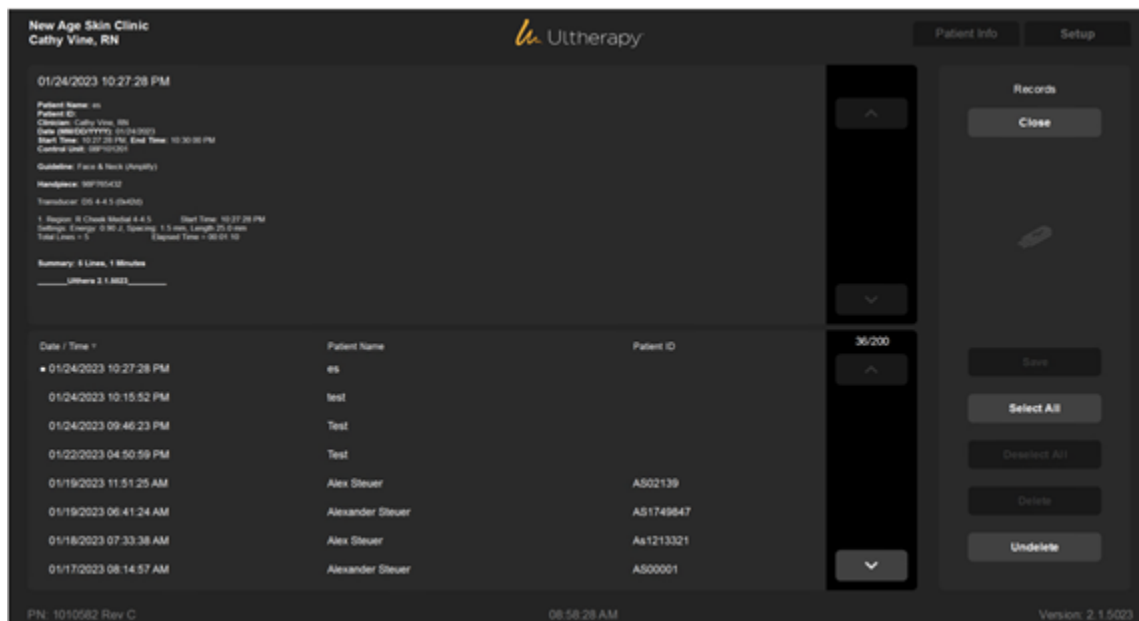

Figure 7.11: Patient Image Record List
1. On the **Setup** screen, tap the **Images** button to view a list of treated patients like the one shown in Figure 7.11: